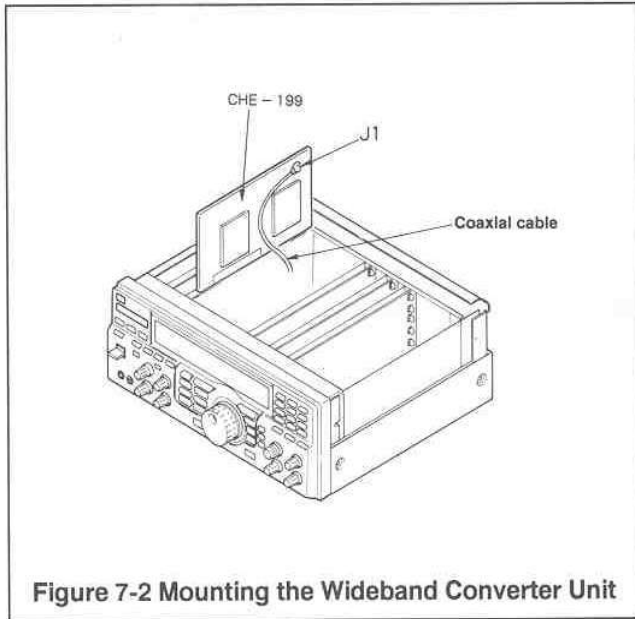

Figure 7-2 Mounting the Wideband Converter Unit
2. Attach the wideband converter unit CHE-199 at the specified location according to Figure 7-2, and insert the coaxial cable into J1 on the wideband converter unit. If the cable is not properly inserted into the wideband converter unit at this time, the contact may be faulty and prevent the NRD-545 from functioning.
4. Turn the main power ON while holding down the CLR button ② to return the memory channels and user setup to the factory setting (default).